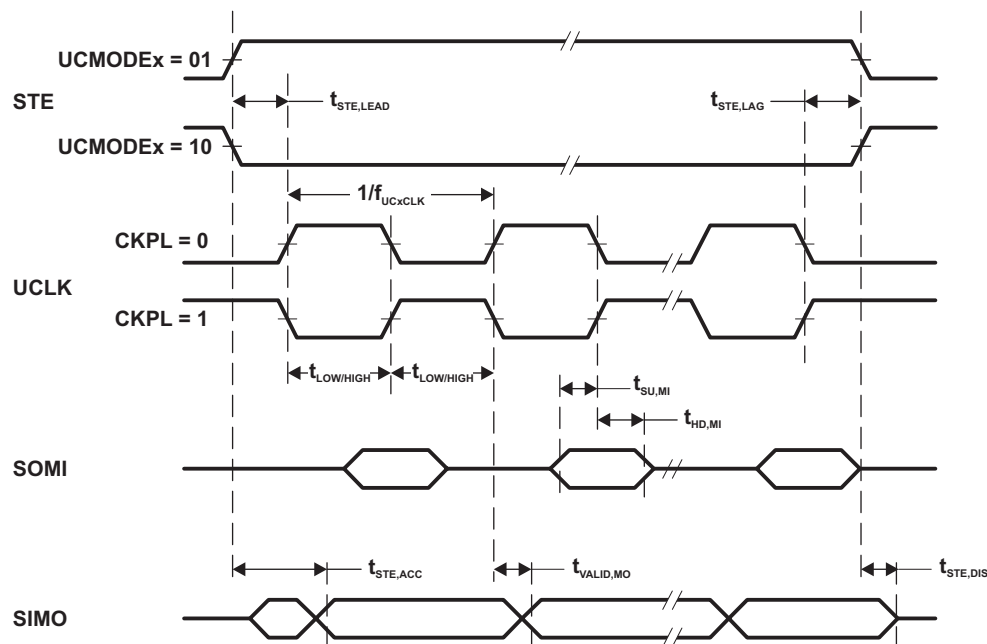
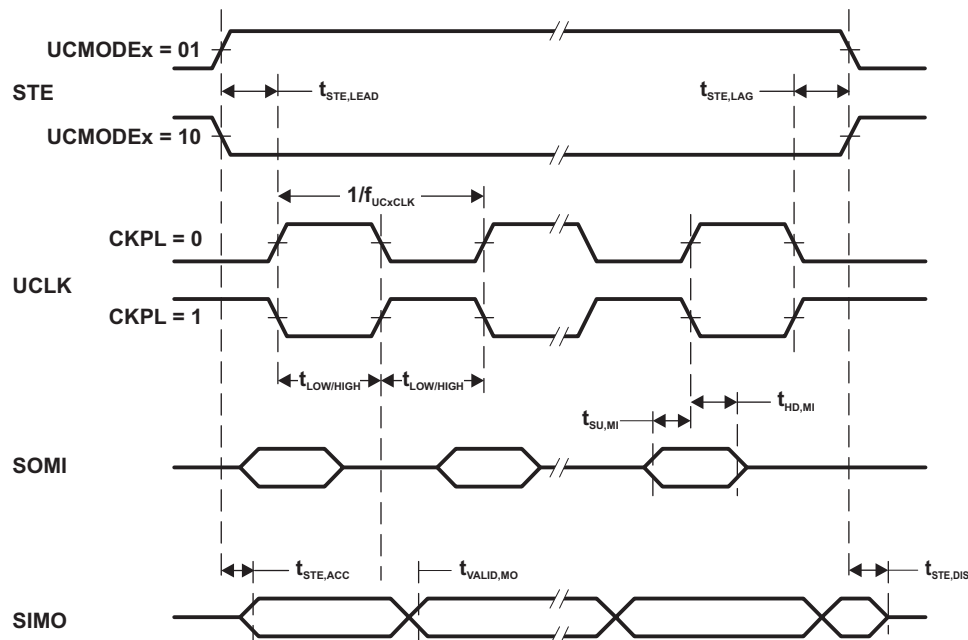

Figure 13. SPI Master Mode, CKPH = 0
Figure 14. SPI Master Mode, CKPH = 1
(2) Specifies the time to drive the next valid data to the SIMO output after the output changing UCLK clock edge. See the timing diagrams in Figure 13 and Figure 14.
(3) Specifies how long data on the SIMO output is valid after the output changing UCLK clock edge. Negative values indicate that the data on the SIMO output can become invalid before the output changing clock edge observed on UCLK. See the timing diagrams in Figure 13 and Figure 14.